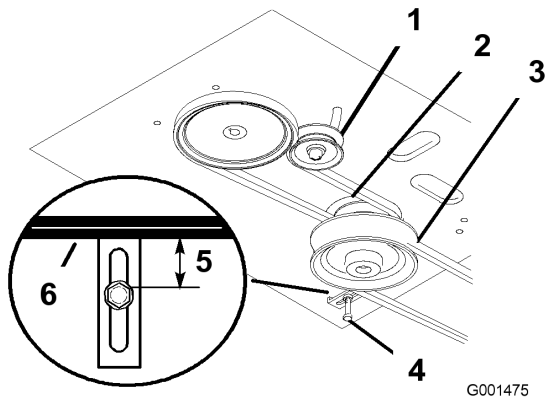

Figure 33
4. Remove the mower belt; refer to Replacing the Mower Belt (Figure 33).
5. Loosen the pivot bolt enough to slide the idler pulley in the slot and remove the traction belt from the engine and the drive pulleys (Figure 33).
6. Install the new drive belt around the engine and the drive pulleys (Figure 33).
7. Slide the idler pulley in the engine frame to tension the traction belt (Figure 33).
8. Install the mower belt (Figure 33).
9. Check the belt guide under the engine frame for the proper adjustment (Figure 33).